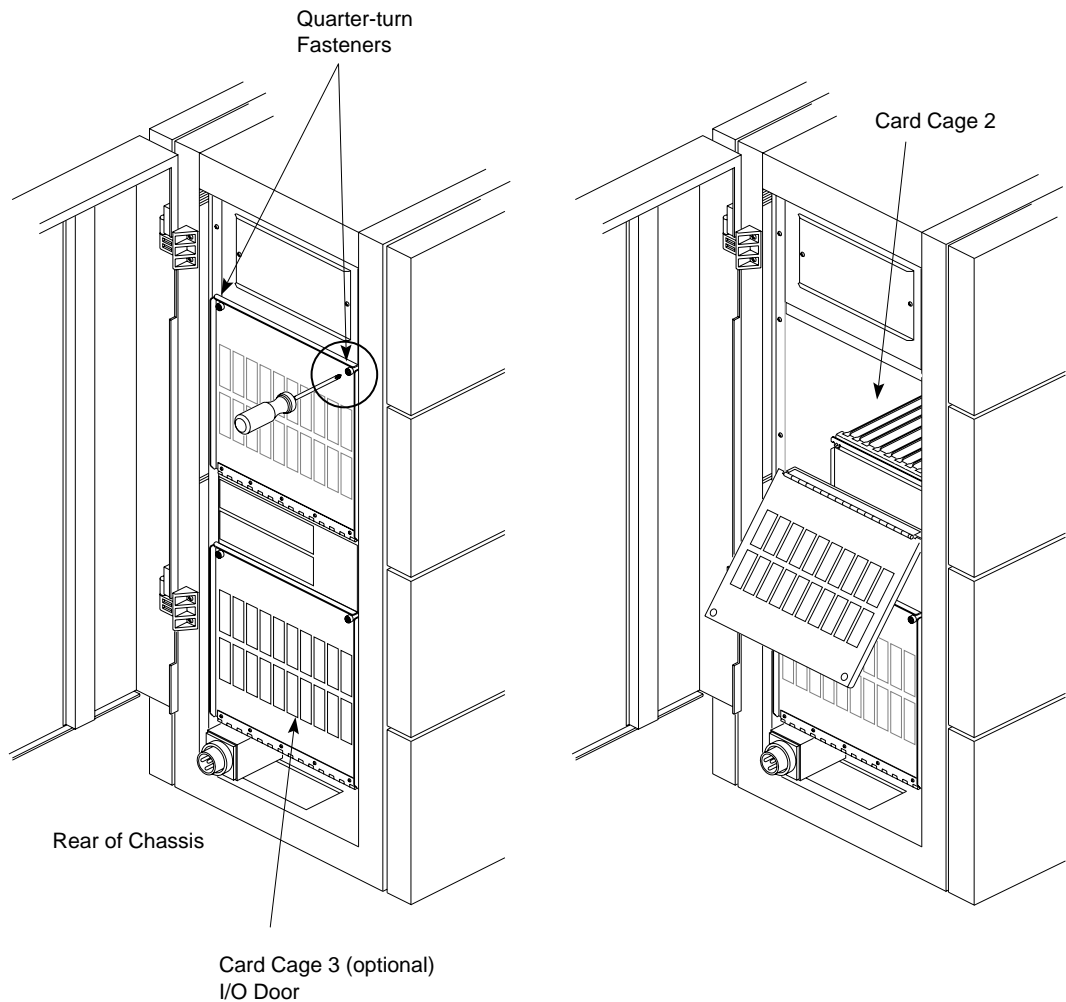

Figure 3-3 Gaining Access to Cardcages 2 and 3
3. Release the two quarter-turn fasteners securing the I/O panel (see Figure 3-3) and lower the panel until it is horizontal.